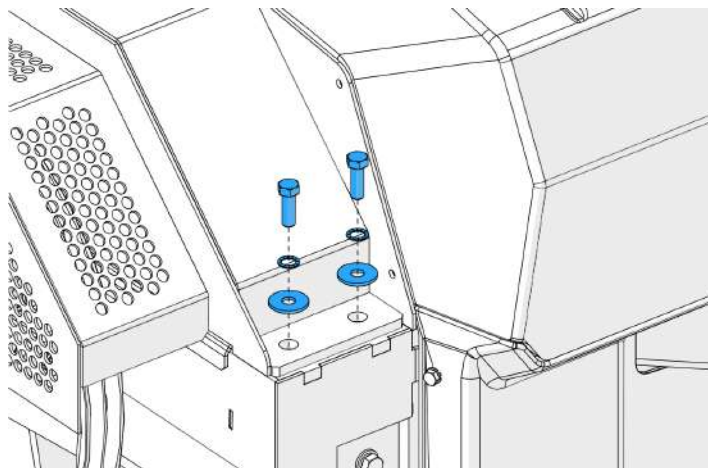

Figure 49 - Chipping chamber cover bolts
5. Remove the two bolts holding the chipping chamber cover closed (Figure 49).